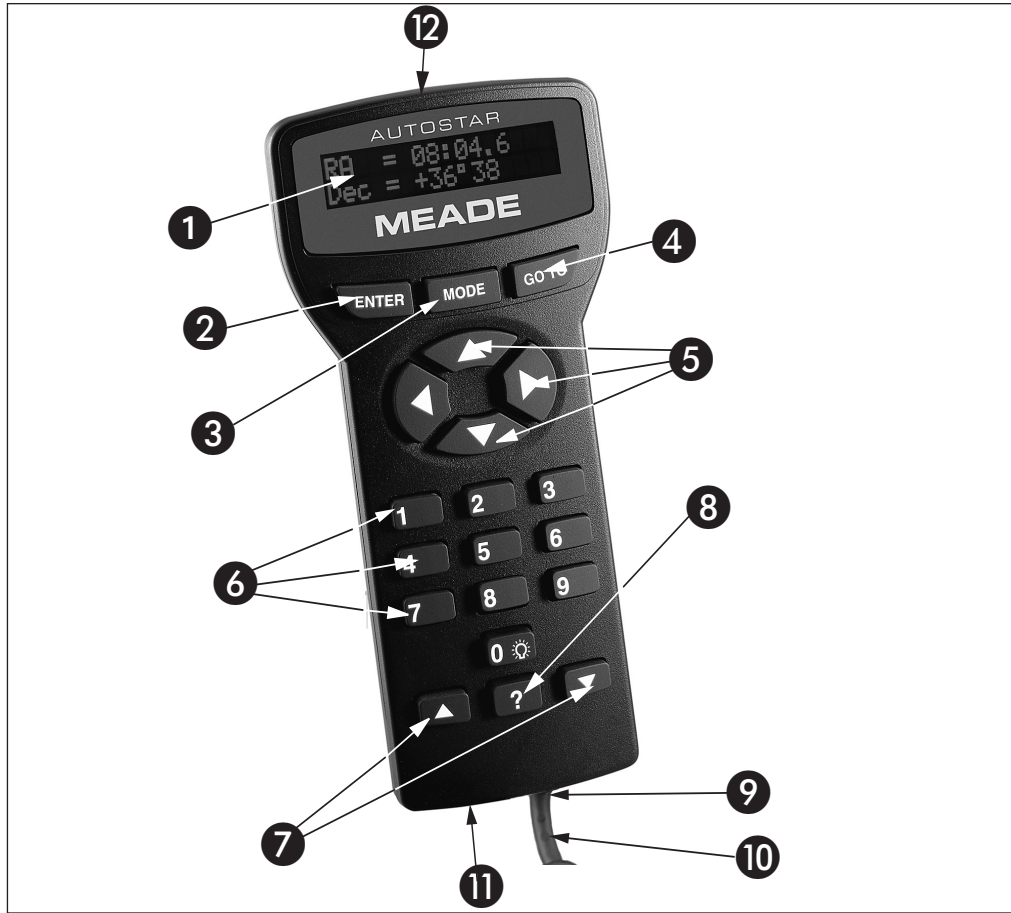

Fig. 2: The LX90 AutoStar Handbox.
- A. **Handbox (HBX) Port:** Plug the AutoStar coil cord (**Pg10, Fig. 2, 10**) into this port.
D. Auxiliary (AUX) Port (2): Provides connection for Meade accessories. See **OPTIONAL ACCESSORIES**, page 42.
If MODE is pressed and held for two seconds or more, information about the telescope's status displays. When the status displays, press one of the Scroll keys (**Pg. 10, Fig. 2, 7**) to display the following information:
- 9 Coil Cord Port:** Plug one end of the AutoStar coil cord into this port (**pg. 10, Fig. 2, 9**) located at the bottom of the AutoStar handbox.